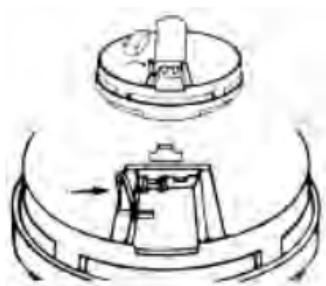

FIGURE 6
5. When installing the battery, press the battery reminder finger down into the battery compartment and install the battery (see Figure 6).